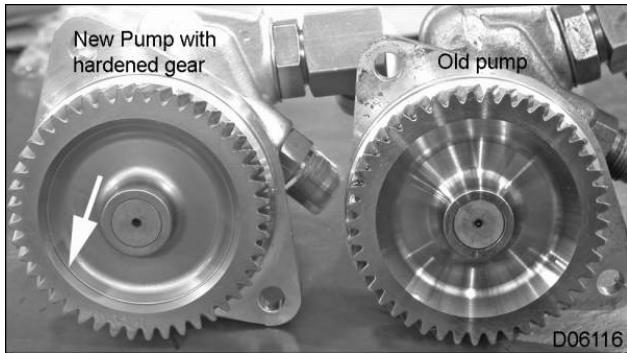

Figure 19 Verify Witness Marks on New Gear
18. Verify witness mark on the gear face. If there is no witness mark and the part number matches the improved pump assembly, the hardened gear should have a dull appearance due to hardening (Figure 19).